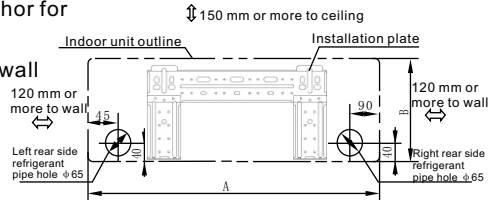

Fig 5
- Determine hole positions according to the diagram detailed in Fig.5. Drill one (1) hole (φ65mm)slanting slightly to outdoor side.